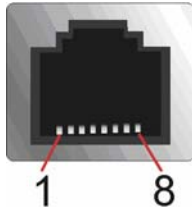

Figure 4-21: Ethernet Connector
- CN Location:** See **Figure 4-21**